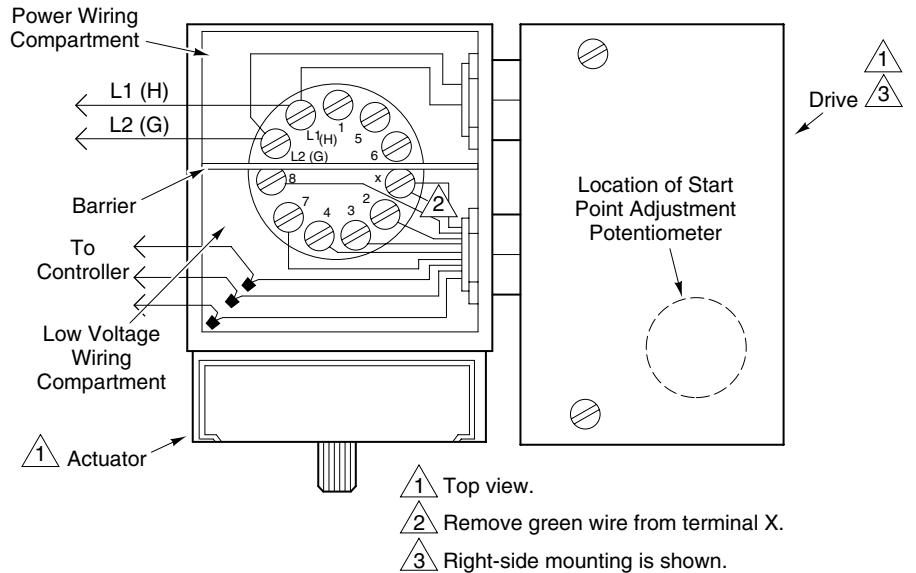

Figure-3 Actuator/Drive Wiring and Mounting Arrangement.
2. Secure the drive to the actuator with the two locknuts provided. Refer to Figure-3.
1. Peel back the TAC label from the drive, to expose the start point adjustment potentiometer. Refer to Figure-3.